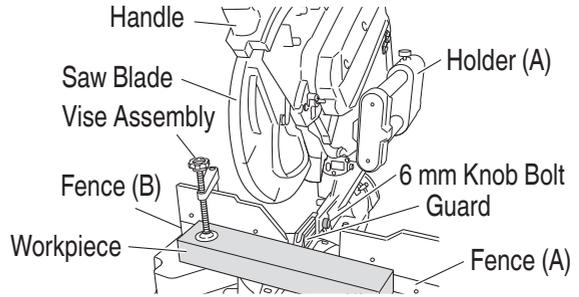

Fig. 9
Holder (A) has a guard (see Fig. 9) into which a groove must be cut when using the tool for the first time. Loosen the 6 mm knob bolt to retract the guard slightly. After placing a suitable wooden piece to sit on the fence and the table surfaces, fix it with the vise. Slide the motor head backwards to the end. Then tighten the slide securing knob. After the switch has been turned on and the saw blade has reached maximum speed, slowly lower the handle to cut a groove on the guard. (see Fig. 19 on page 50)